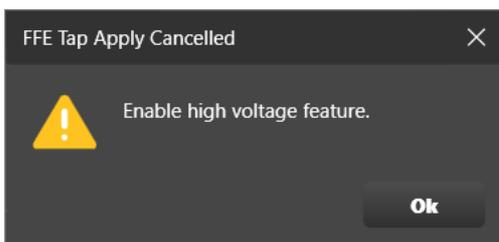

Figure 24: Error Message: Need to Enable High Voltage Feature
The ML7008F-LFT is characterized by its high amplitude on DTx: the amplitude can go up to 2.4Vpp. Should the amplitude exceed the 1V threshold, a warning message will be displayed, advising you to enable the High Voltage feature (Figure 24). This warning message is specifically designed to appear to help prevent potential damage to the receiver side (RX), ensuring the integrity and longevity of the system components.